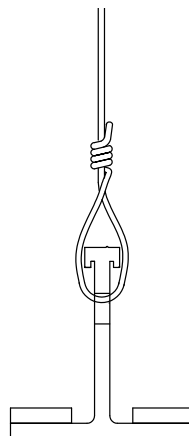

Figure 20. Tee Profile with Twisted Wire
Step 17: Adjust all sections, starting with the immediate adjacent sections, making the entire ceiling grid level and flush. Tightening hanger wires by twisting and securing per ASTM C636, after each module is properly tensioned (**Figure 20**).